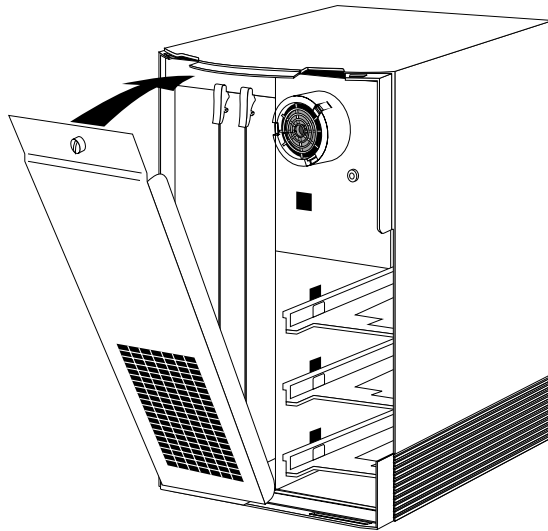

Figure 3-25 Tilting the Metal Panel Up to the Indigo Chassis
- Tilt the metal panel back up to the Indigo chassis, as shown in Figure 3-25.